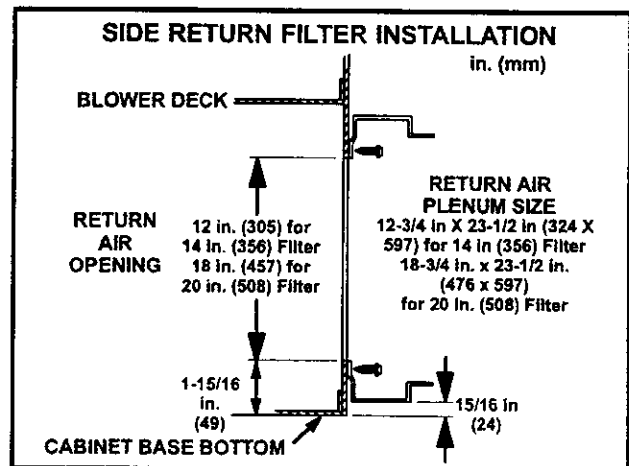

FIGURE 5
Filter racks are available from Lennox for side return air applications. See figures 5 and 6.
- 2 - Screw filter rack into place with the eight self drill, self tap screws provided. See figure 5.